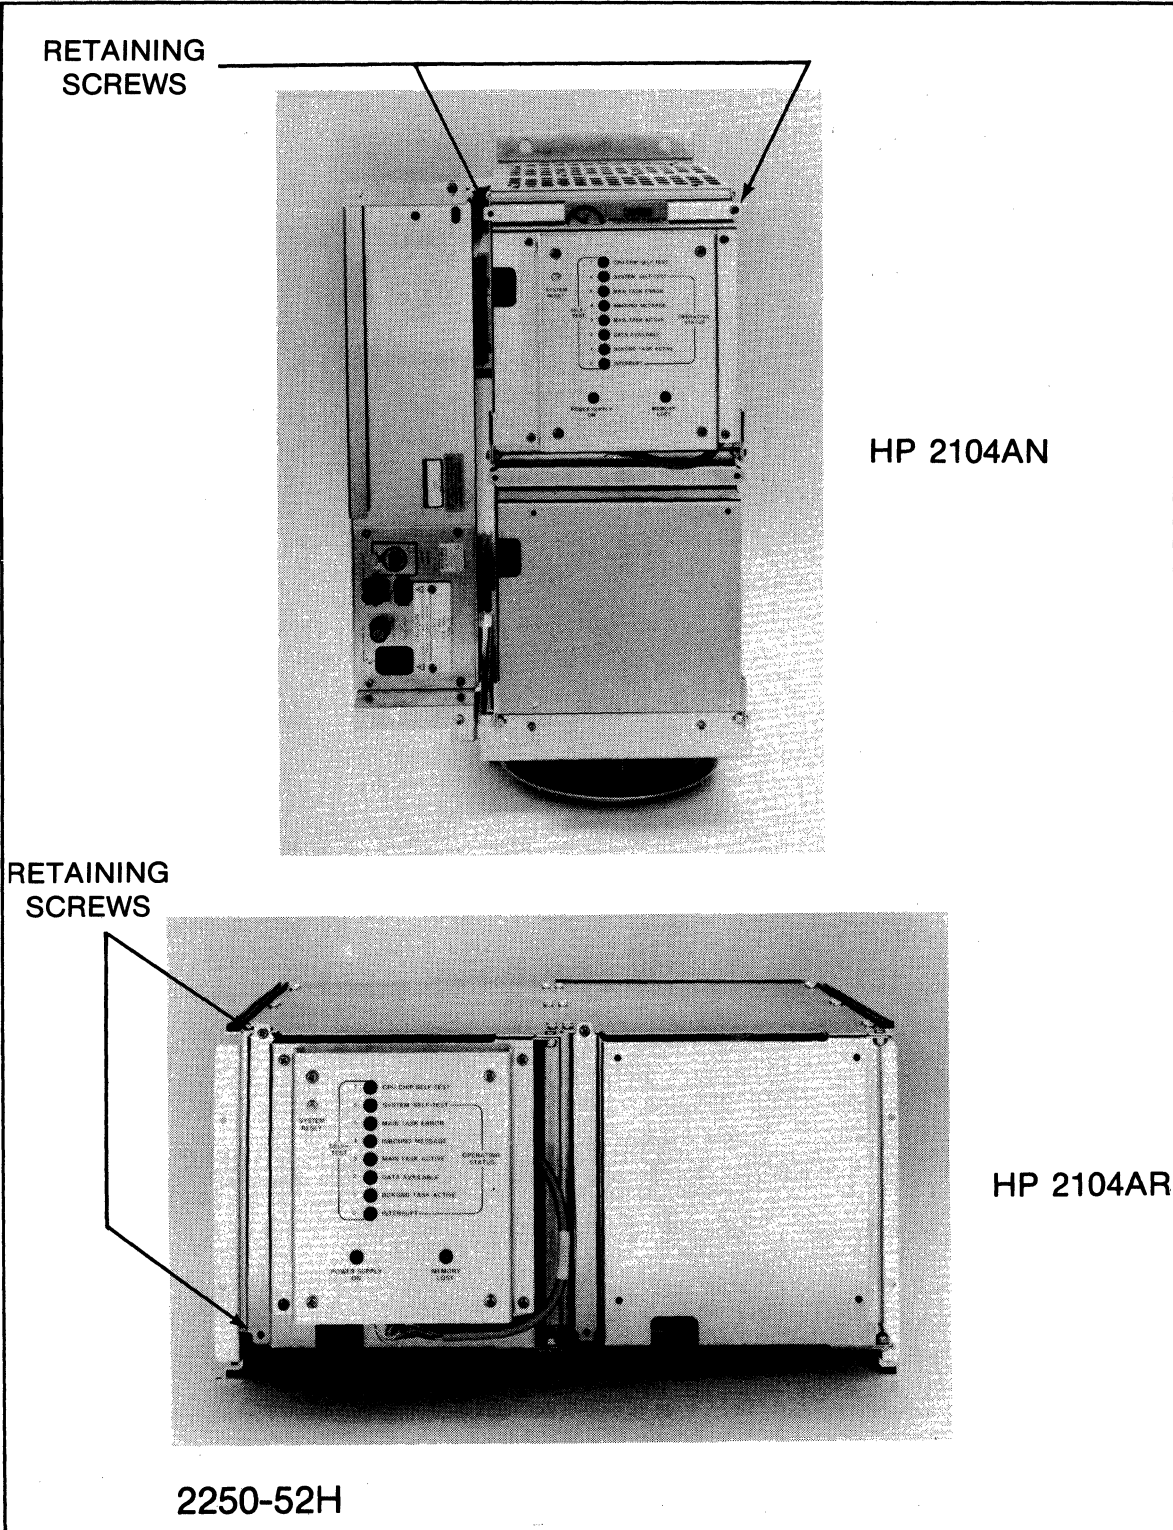

Figure 4-1. Removing the Processor Unit Card Cover
- c. Remove the two retaining screws on the processor unit cover and open the cover (see figure 4-1).